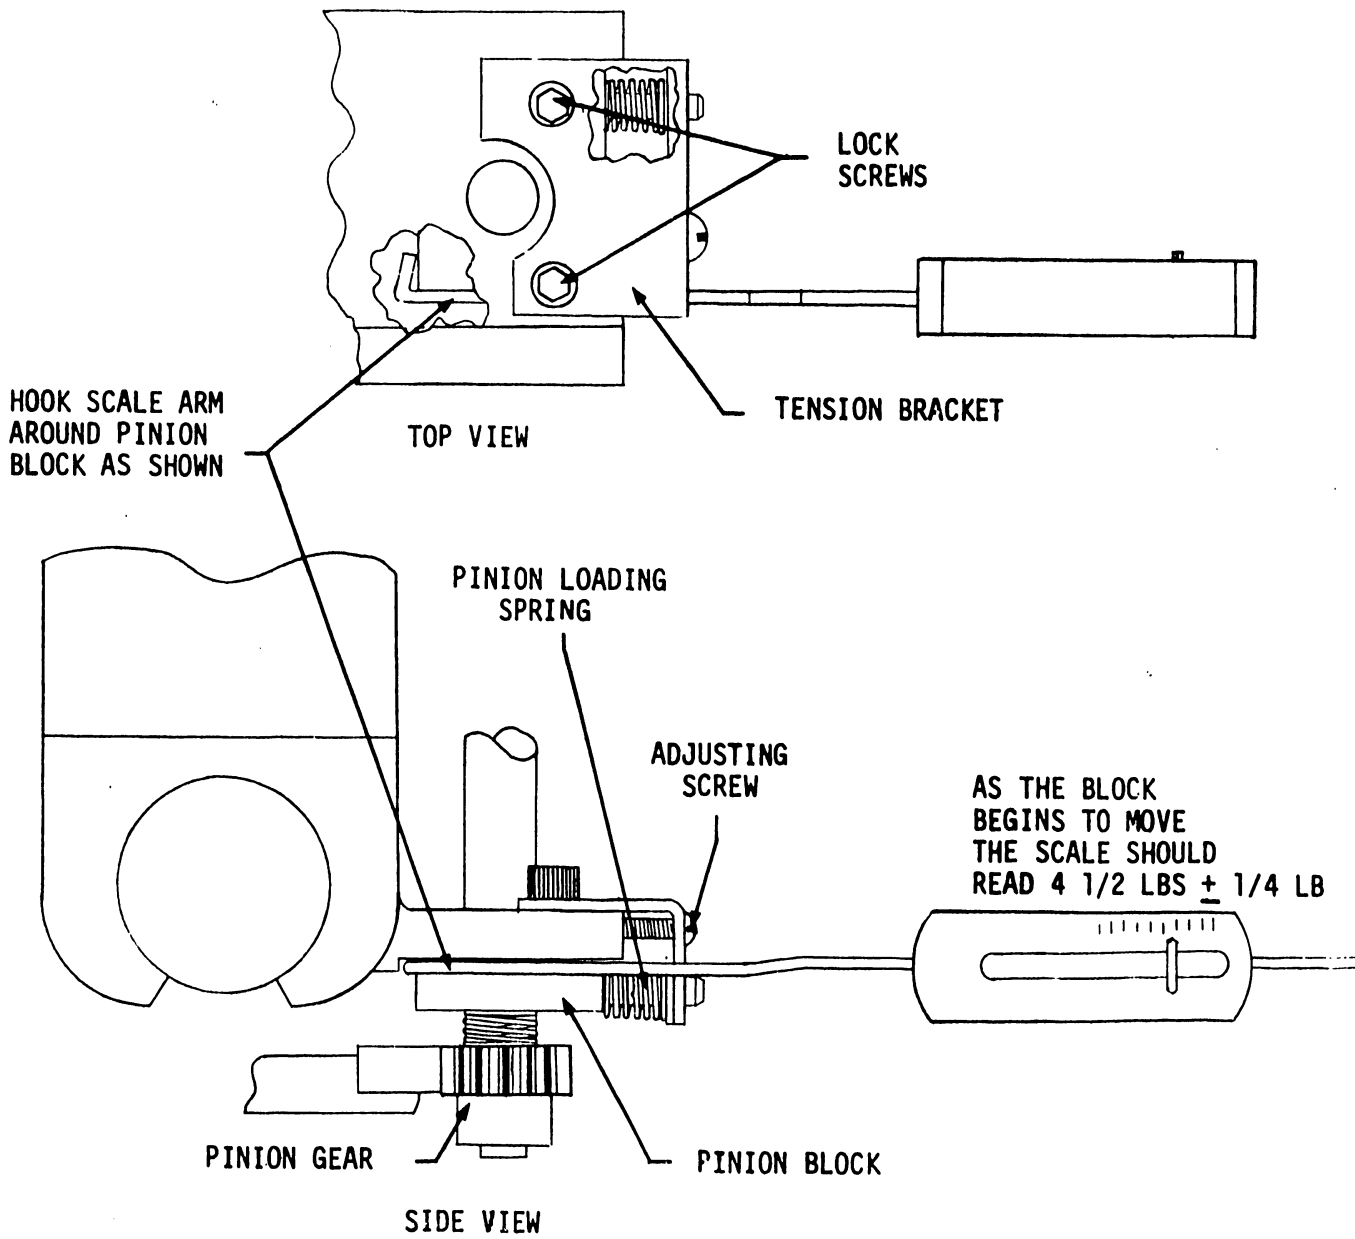

FIGURE 20
- 1) When pulling on the pinion block with a spring scale, the block should begin moving at 4.5 lbs. \pm .25 lb. See Figure 20.